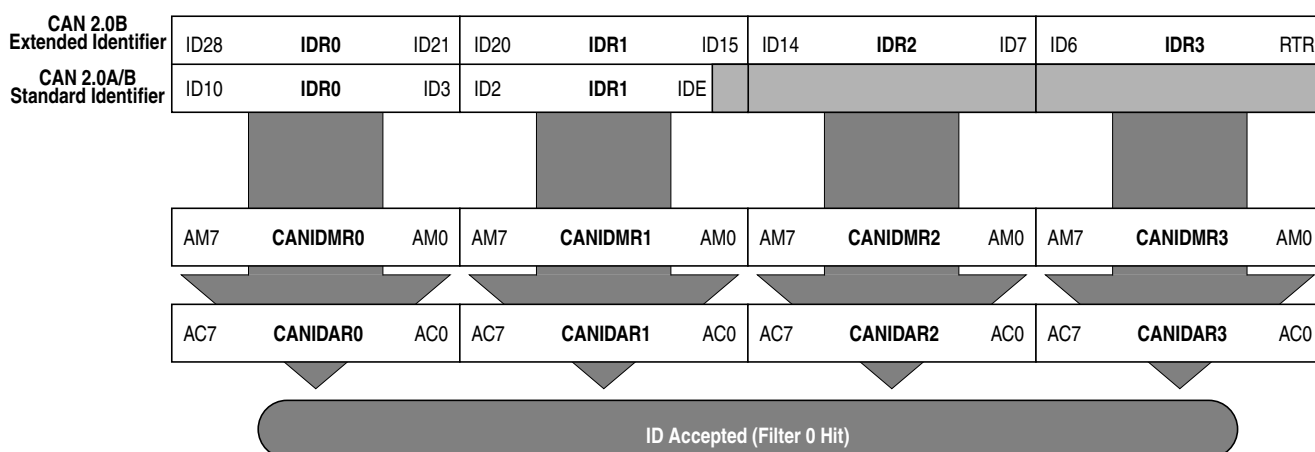

Figure 16-40. 32-bit Maskable Identifier Acceptance Filter
- The 11 bits of the standard identifier plus the RTR and IDE bits of the CAN 2.0A/B messages1. This mode implements two filters for a full length CAN 2.0B compliant extended identifier. Figure 16-40 shows how the first 32-bit filter bank (CANIDAR0–CANIDAR3, CANIDMR0–CANIDMR3) produces a filter 0 hit. Similarly, the second filter bank (CANIDAR4–CANIDAR7, CANIDMR4–CANIDMR7) produces a filter 1 hit.